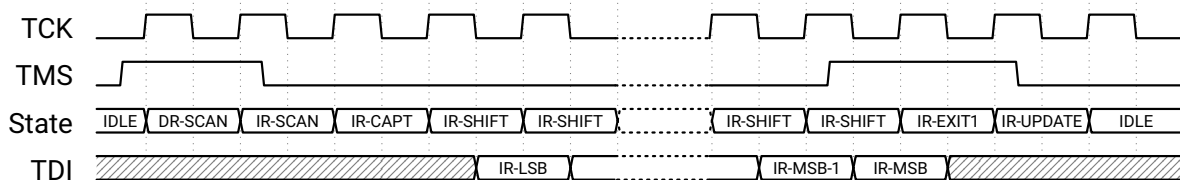

Figure 3.13: JTAG instruction shift NEW COMMAND
The typical procedure is to first load the instruction and then write or read the data associated with this instruction. The JTAG host controller must drive the signals TCK, TMS and TDI in the according way as illustrated shown in Figures 3.13 and 3.14. The instruction register (IR) size is 6 bits. Instructions have to be shifted into the JTAG TAP with least significant bit (LSB) first.